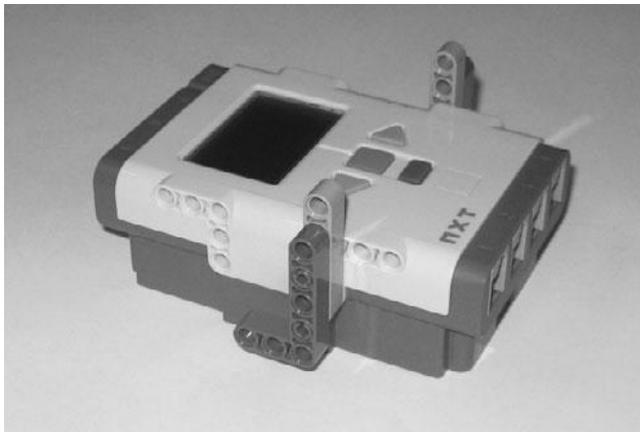

Figure 9.4
Step 2—Take the components created in Step 1 and connect them to the NXT Brick as shown in Figure 9.4.